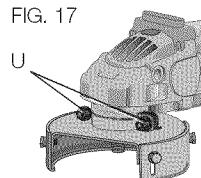

FIG. 17
MOUNTING FLARING CUP WHEEL GUARD (FIG. 17)
1. Install the guard as shown in Fig. 17.
3. Securely tighten the two clamping screws (U) supplied with the guard.